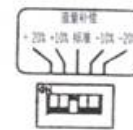

Fig. 6
- 6) Dosage adjustable key should be set on standard position while designated infusion device is used. (See figure 6)